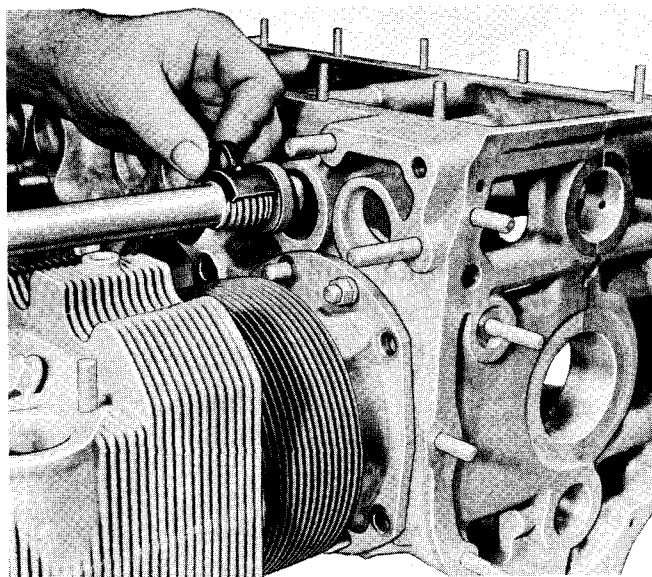

Figure 8-5. Installing Pushrod Housing.
g. Install washer (19, Figure 4-11) on cylinder end of pushrod housing (23). Compress spring in cage of pushrod housing installer (see Figure 8-5)